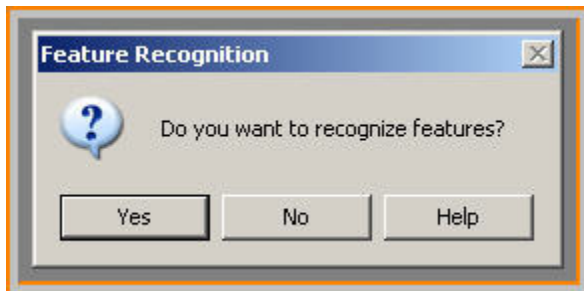

Figure 6: Feature Recognition dialog
Step 8: Now open the SAT file directly using the open dialog box and you will be prompted with the dialog box shown in Figure 6.